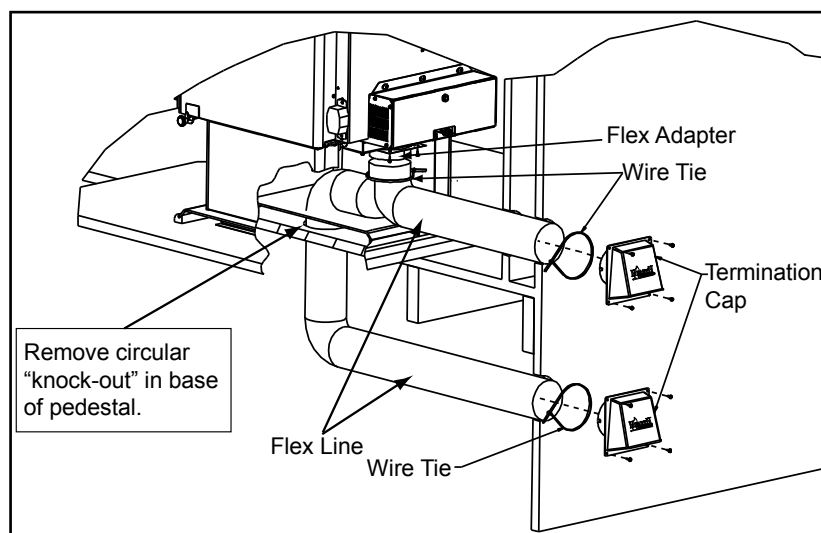
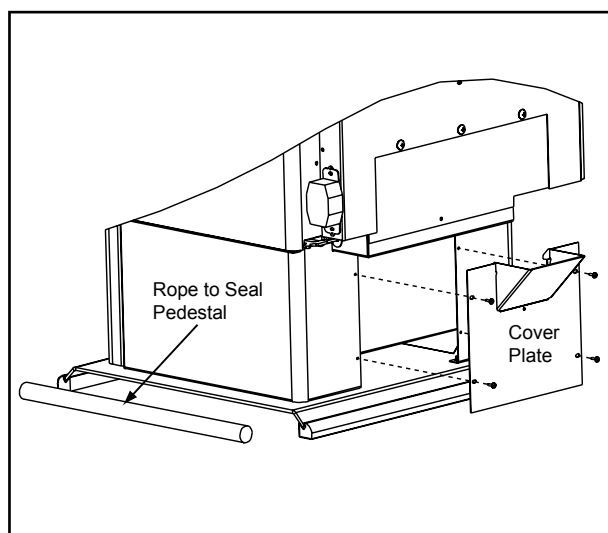

Figure 14.1 - Floor & Rear Installation
Figure 14.2 - Floor Installation Alternative
Included in SRV7033-041: Cover plate and sealing rope (see Floor Installation Alternative below, **Figure 14.2**)
2. Using a #2 Phillips screw driver attach the flex adapter to the stove using 4 screws. **Figure 14.1**
5. **Floor Installation Alternative:** In some instances you may not be able to install the flex pipe as show in **Figure 14.1**. If that is the case, you will need to order SRV7033-041 which includes a cover plate and sealing rope as shown in **Figure 14.2**. The goal is to seal the pedestal so no room air can leak into the pedestal.